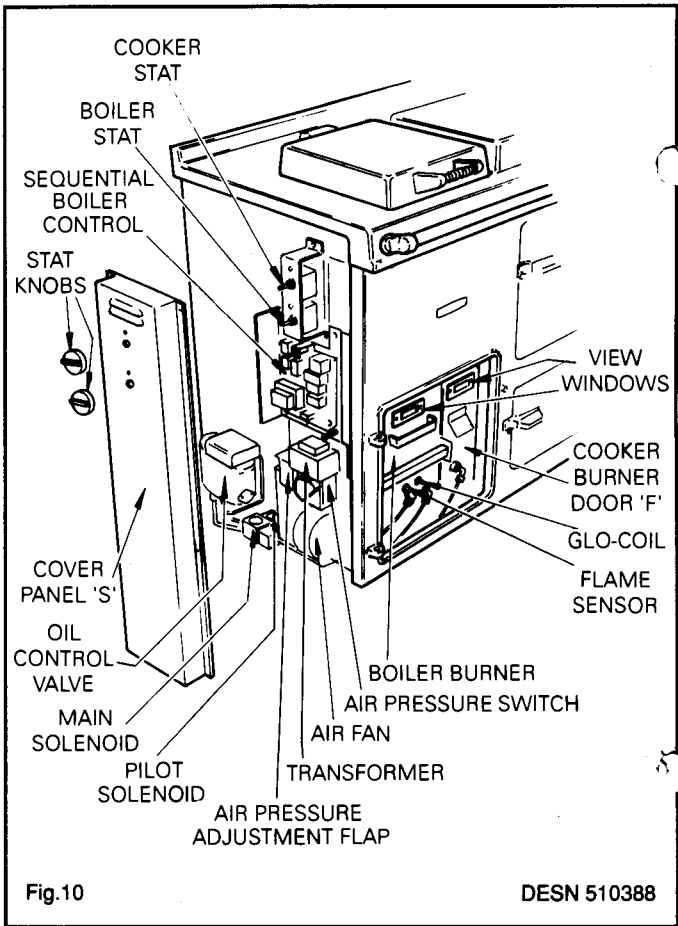

Fig.10
1. Open the outer burner door E, and remove. Lift off, the cooker burner door F. Remove knobs and electrical cover panel on L.H. side. See fig.10.
2. (i) Unscrew the pinch screw locating the Flame sensor and withdraw it from the burner front plate. See fig.10.
(ii) Detach the electrical connections to the glo-coil. See fig.10.
(xi) Depress trip lever D on the front of the oil control valve P (See Fig.10) and turn on the boiler oil control knob J to No.6 setting.
4. Check length of rear pin, this should be 67mm if necessary adjust accordingly. See Fig.10.